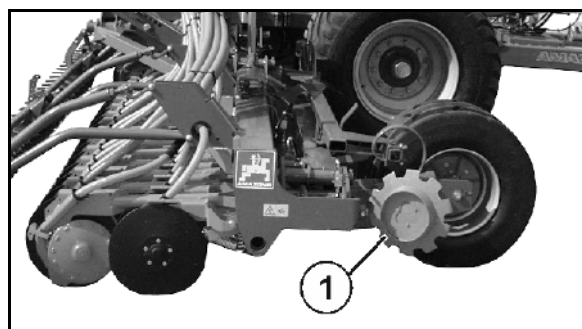

Fig. 35
**Get the track marker arms into transport position (Fig. 35/1) before folding in the machine.**
Position **A** – the track marker folds completely into the transport position (Fig. 35).